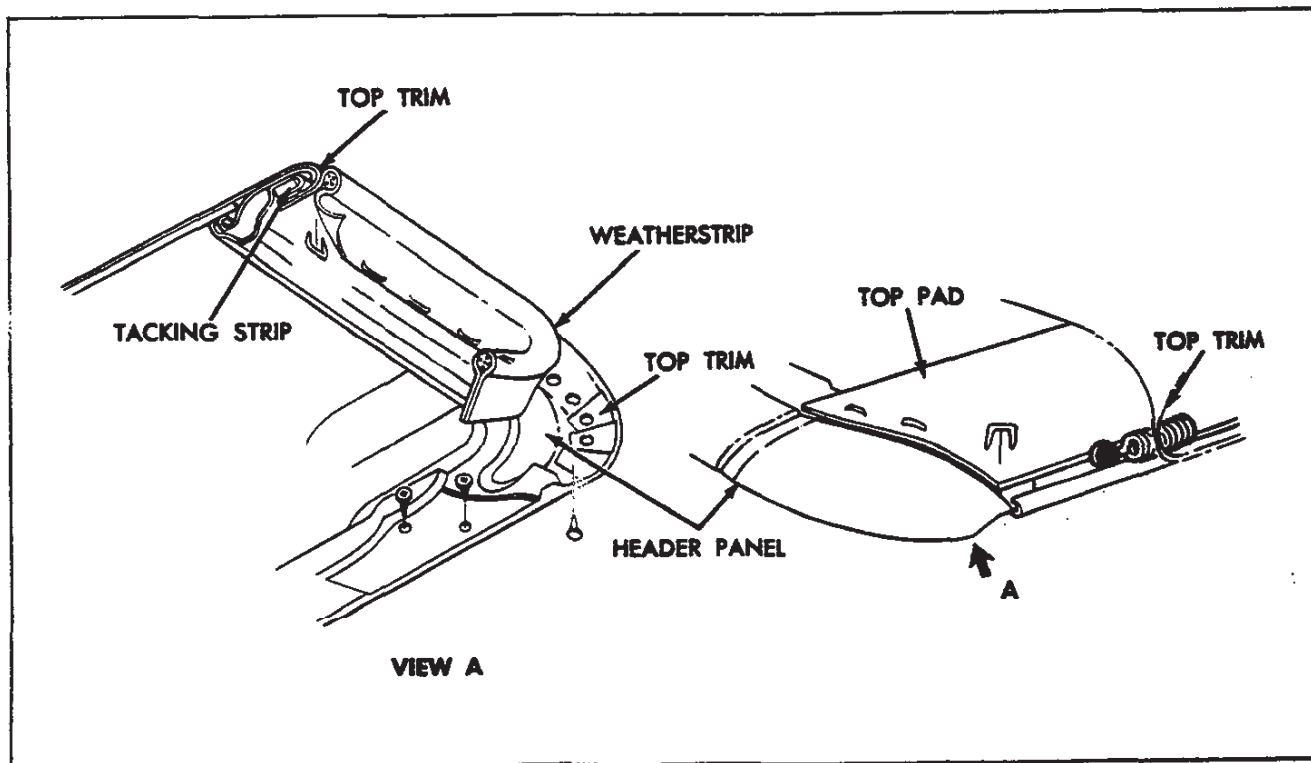

Fig. 65—Trim at Header
2. Remove tacks securing top and header outer weatherstrip to header (fig. 65).
14. Release header from windshield. Tack or staple trim to header (fig. 65).